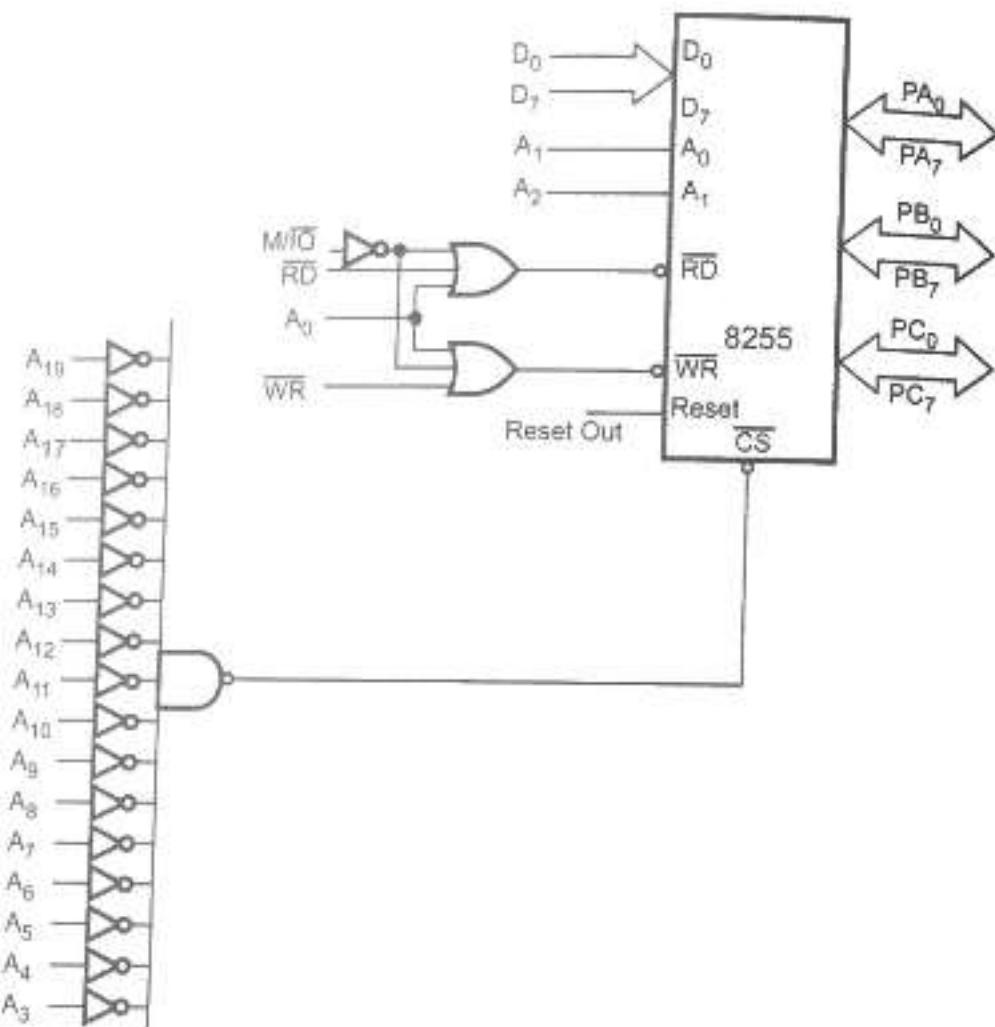

Fig. 3.4.20 Memory mapped I/O
- Fig. 3.4.20 shows the interfacing of 8255 with 8086 in memory mapped I/O technique. Here RD and WR signals are activated when M/IO signal is high, indicating memory bus cycle.